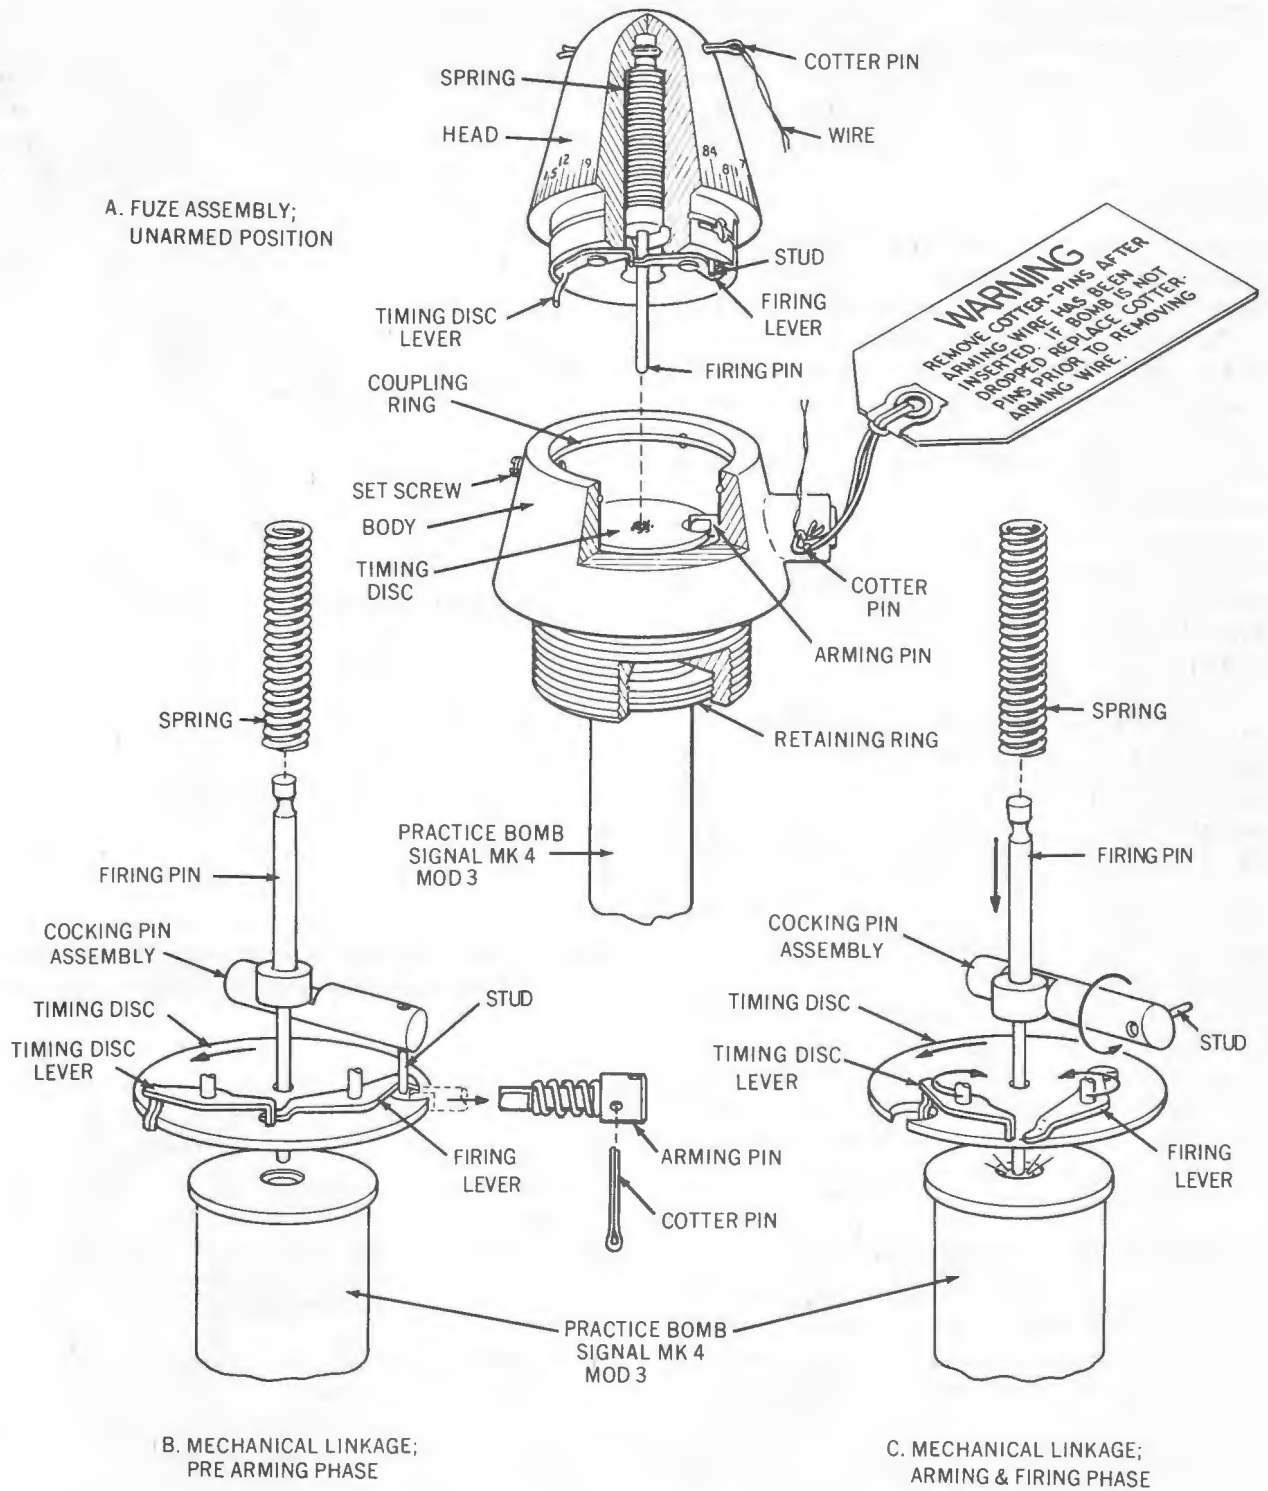
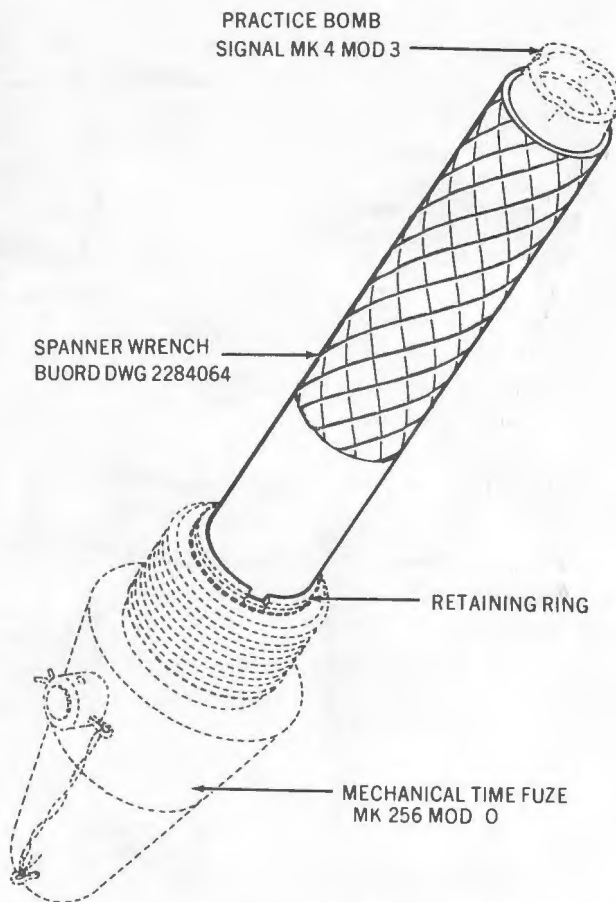

Figure 2-15C. Mechanical Time Fuze, Mk 256 Mod 0, Operation.
Figure 2-15D. Mechanical Time Fuze, Mk 256 Mod 0, and Practice Bomb Signal Mk 4 Mod 3, Assembly.
After the arming wire is installed in the fuze, the two cotter pins are removed. Removal of the cotter pin in the head removes the lock on the firing pin, figure 2-15C, while the arming wire restrains the spring-loaded arming pin.
When the bomb is released from the aircraft, the arming wire slips out of the arming pin housing, causing the spring-loaded arming pin to spring out of the notch on the timing disc, figure 2-15C; this action starts the clockwork mechanism operating. When the notch in the timing disc meets the tab on the timing disc lever, the timing disc lever drops into the notch. This breaks the mechanical linkage that restrains the cocking pin assembly by pivoting the firing lever away from the cocking pin assembly. The spring-loaded firing pin then rotates the cocking pin assembly and springs forward with sufficient energy to initiate the primer of Practice Bomb Signal Mk 4 Mod 3, figure 2-15D.
3. Slip the retaining ring over the bomb signal, refer to figure 2-15D, and tighten the retaining ring into the fuze body with Spanner Wrench, Dwg. No. 2284064.